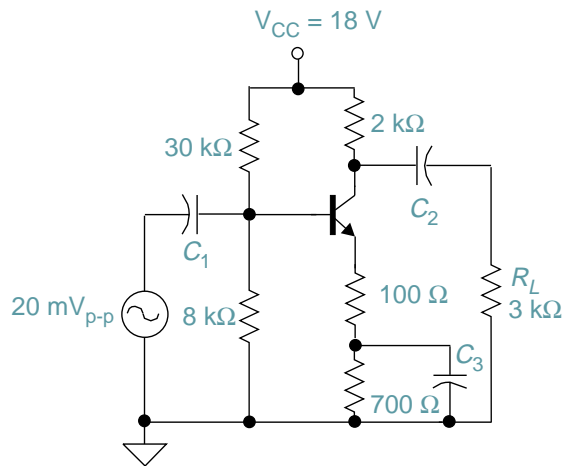

FIGURE 5-27
3. For the circuit in Figure 5-27, find:
4. What is the largest signal that can be accommodated at the input of the circuit in Figure 5-27 before the output begins to clip?
5. If the lowest frequency of operation is to be 100 Hz, select a value for  $C_1$ ,  $C_2$ , and  $C_3$  in the circuit in Figure 5-27.